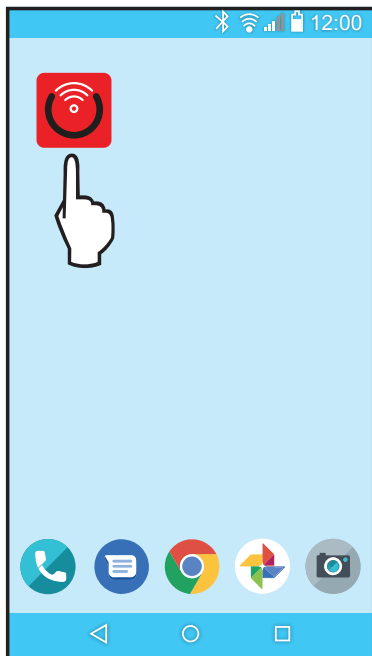

Figure 40. Find your Raymote Mobile App Icon
2. Find the Raymote mobile app icon on your device. See **Figure 40**.